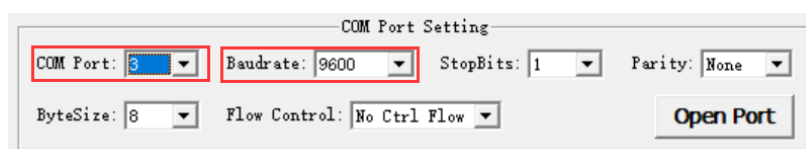

Figure 5: COM Port Setting Interface of QCOM
Step 5: Install the QCOM tool provided by Quectel. The COM Port Setting interface of QCOM is shown in **Figure 5** below.